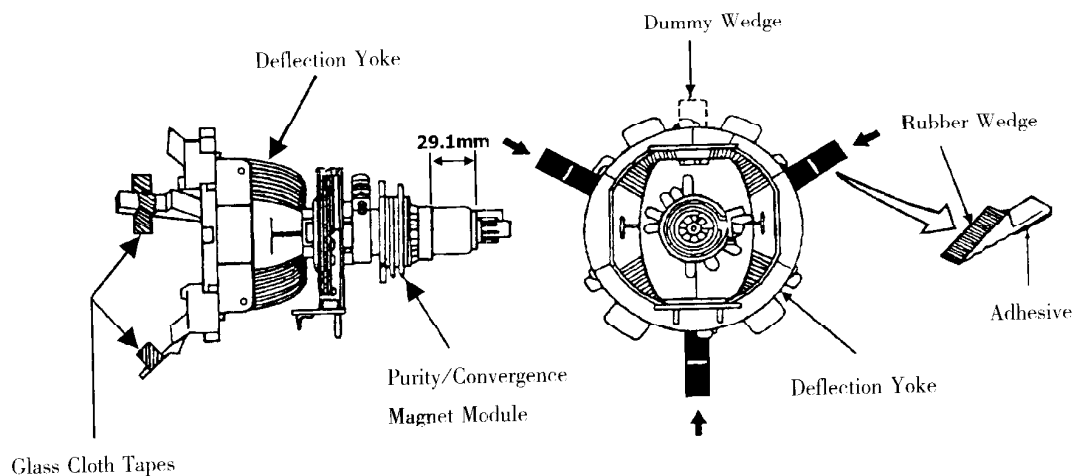

Fig. 26
The purity/convergence magnet assembly and rubber wedges need mechanical positioning. Refer to Fig. 26.
- 2) Temporarily put a wedge as shown in Fig.26. (Do not remove cover paper on adhesive part of the wedge.)
9) Stick three adhesive tapes on wedges as shown in Fig. 26.